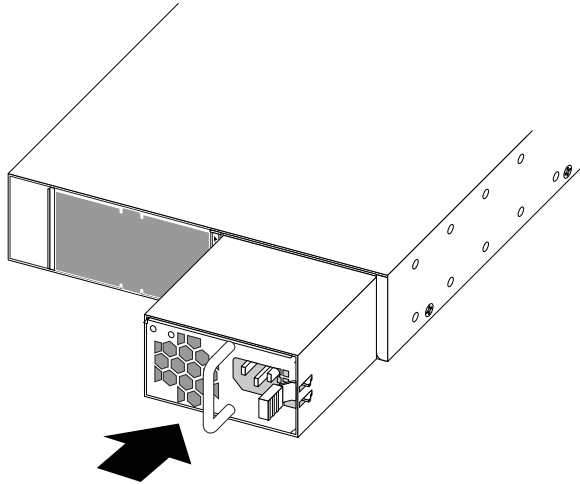

Figure 392: Installing A Summit 350 W or 715 W AC Power Supply
6. Carefully slide the power supply all the way into the power supply bay, as shown in Figure 392.